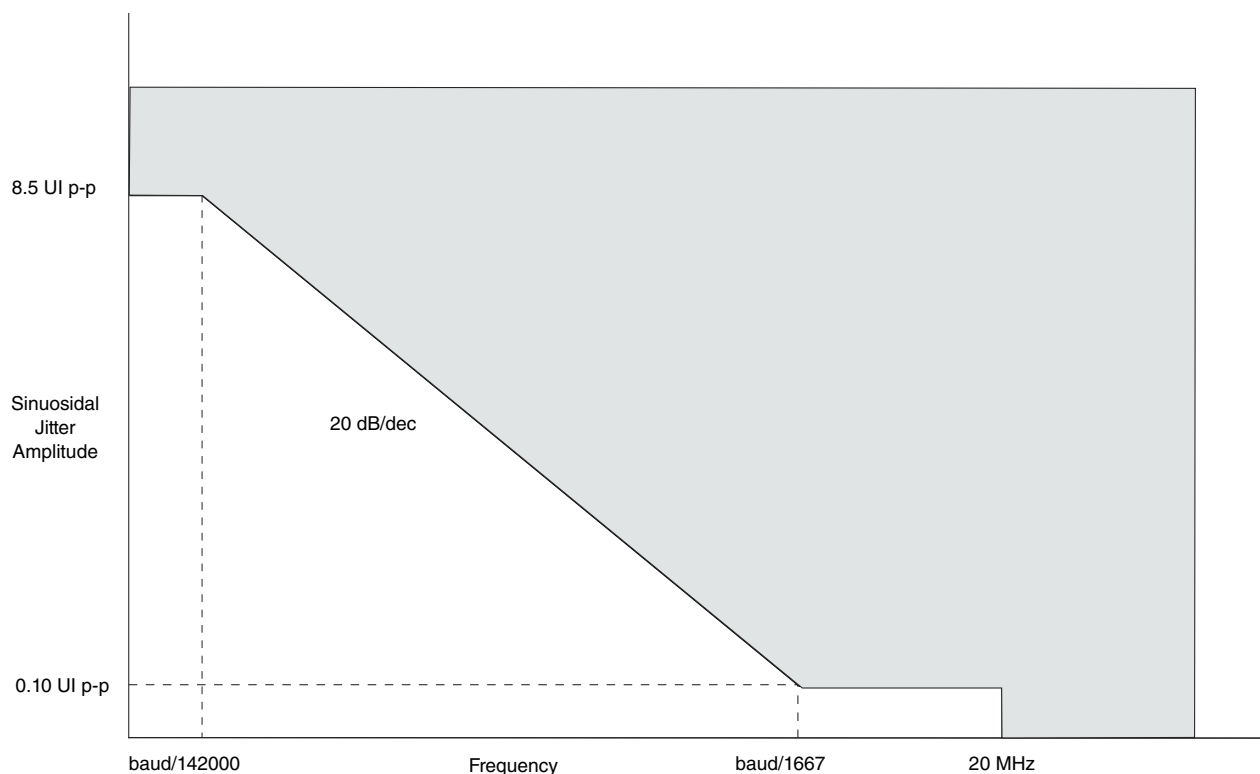

Figure 17. Single-frequency sinusoidal jitter limits
- See Figure 17 for single frequency sinusoidal jitter measurements.
2. Total jitter tolerance is composed of three components: deterministic jitter, random jitter, and single-frequency sinusoidal jitter. The sinusoidal jitter may have any amplitude and frequency in the unshaded region of Figure 17. The sinusoidal jitter component is included to ensure margin for low frequency jitter, wander, noise, crosstalk, and other variable system effects.